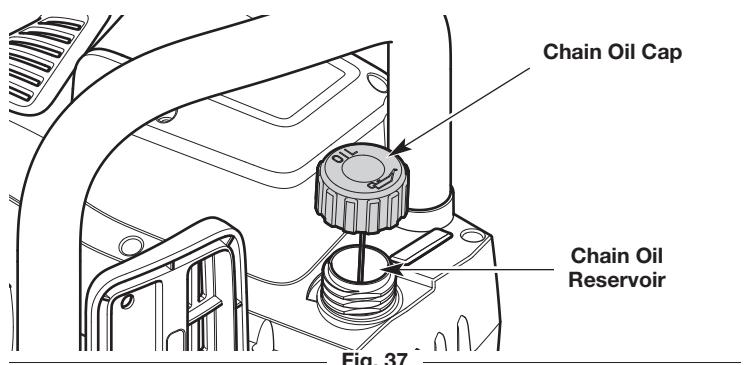

Fig. 37
1. Set the unit on a flat, level surface. Position the unit with the chain oil cap facing up (Fig. 37).
3. Unscrew the chain oil cap (Fig. 37).